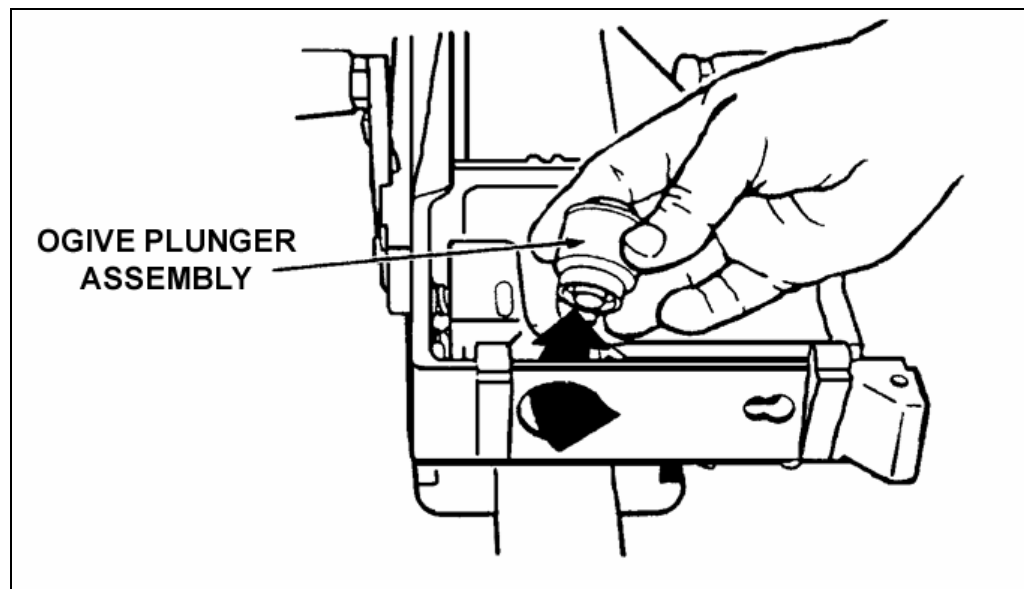

Figure 2-16. Ogive plunger.
(6) Take out the ogive plunger by pulling it out through the inside wall of the receiver (Figure 2-16).
(2) Install round-positioning block. Insert pins into the slots on the receiver and slide the block forward until the pins lock into the small sections of the holes.
(3) Install the ogive plunger assembly. Insert ogive plunger as shown in Figure 2-16.
(4) Install alignment guide assembly by following these procedures: